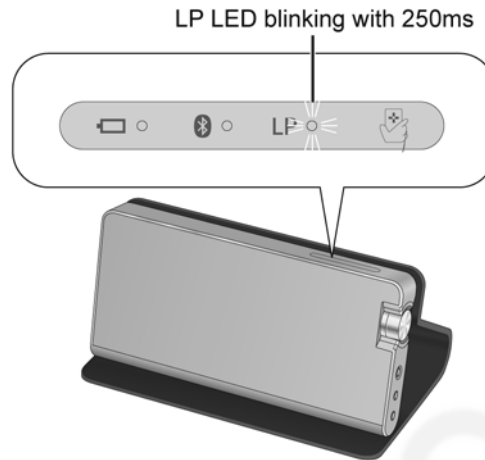

Figure 7-2
Step 3 : LP LED start blinking with 250ms (Refer to Figure 7-2).